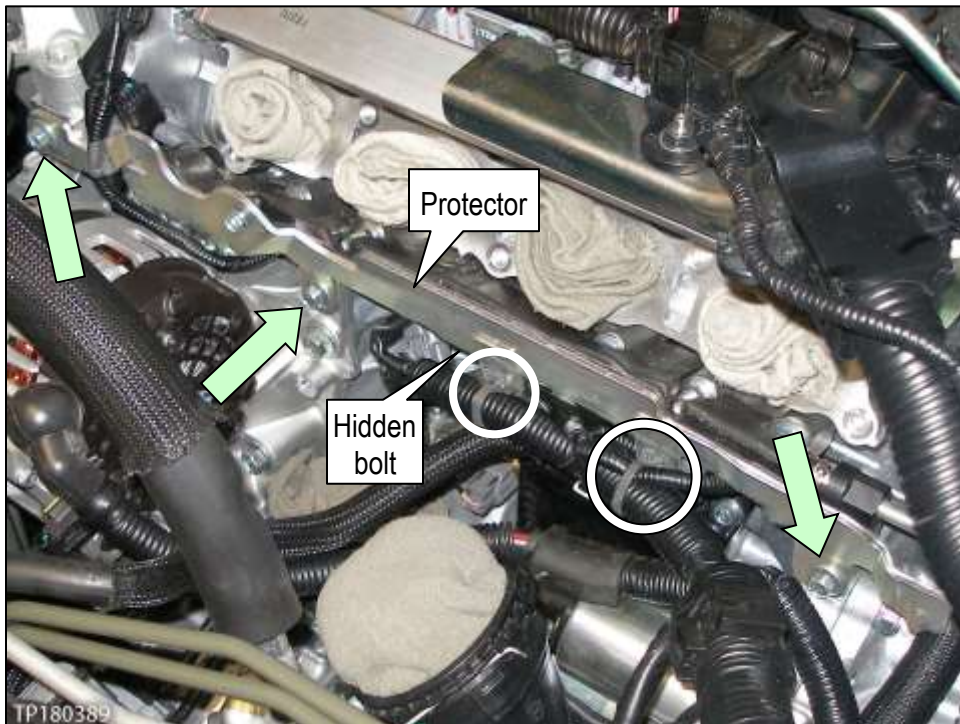

Figure 59
- c. Position the high pressure fuel rail protector as shown in Figure 59.
- d. Install the bolts (see arrows and callout in Figure 59).
- e. Fasten the two (2) harness clips to the high pressure fuel rail protector (see circles in Figure 59).